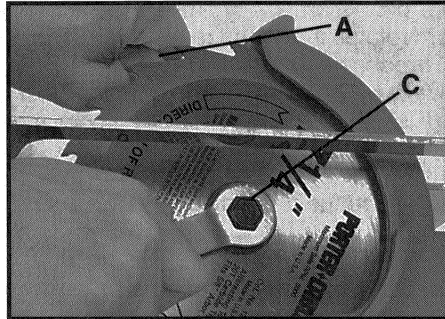

Fig. 3
3. Turn the saw over and make sure the handle rests on a rigid support. See Fig. 3.
4. Retract the blade guard. Insert the jackshaft wrench (A) Fig. 3, between the blade and guard and onto the flats on the jackshaft flange.
5. While holding the jackshaft wrench (A), the blade retaining bolt can be tightened or loosened with the blade bolt wrench (C) as shown in Fig. 3. Turn the blade retaining bolt counterclockwise to loosen and clockwise to tighten. Tighten blade retaining bolt just enough to prevent slippage during normal cutting.